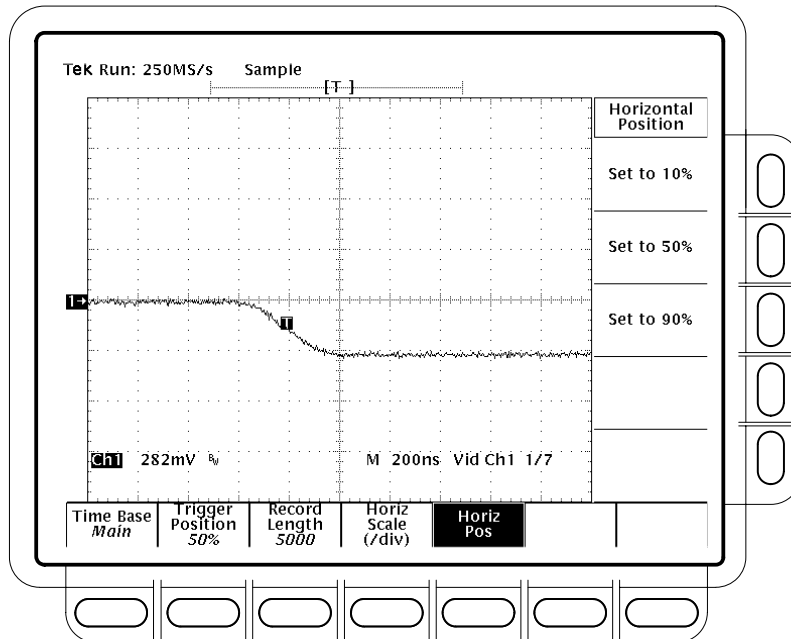

Figure 1–35: Line Count Accuracy Test Setup Waveform
- Verify that the cursor is positioned on a positive slope of the burst signal. See Figure 1–36.